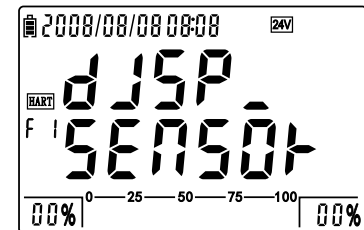

Figure 4-5-1-1: F1 entrance interface
- Switch to HART function 1 by pressing , as figure 4-5-1-1.
- Display the sensor's range by pressing , as figure 4-5-1-2.
- Press to return to figure 4-5-1-1; switch to function 2 by pressing .